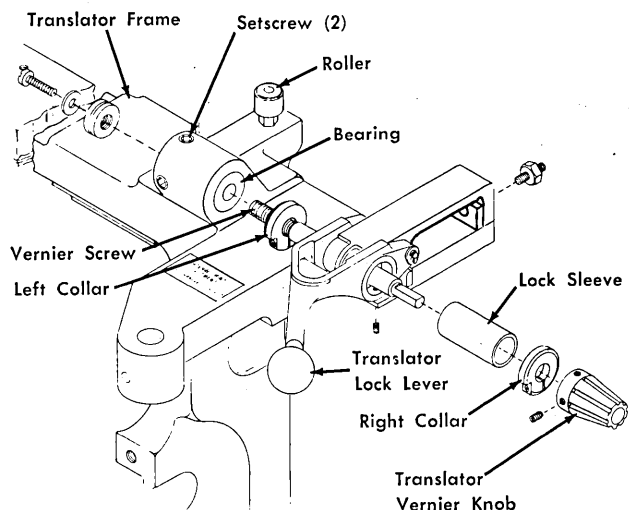

Figure 4-18. Translator Vernier
3. Remove the clip on the translator vernier shaft (a screw and washer on some machines). See Figure 4-18.
1. Clamp the translator vernier knob against the shoulder of the vernier screw (see Figure 4-18).
4. Check for a bind between the bottom of the vernier screw and the lock sleeve of the translator vernier (see Figure 4-18).